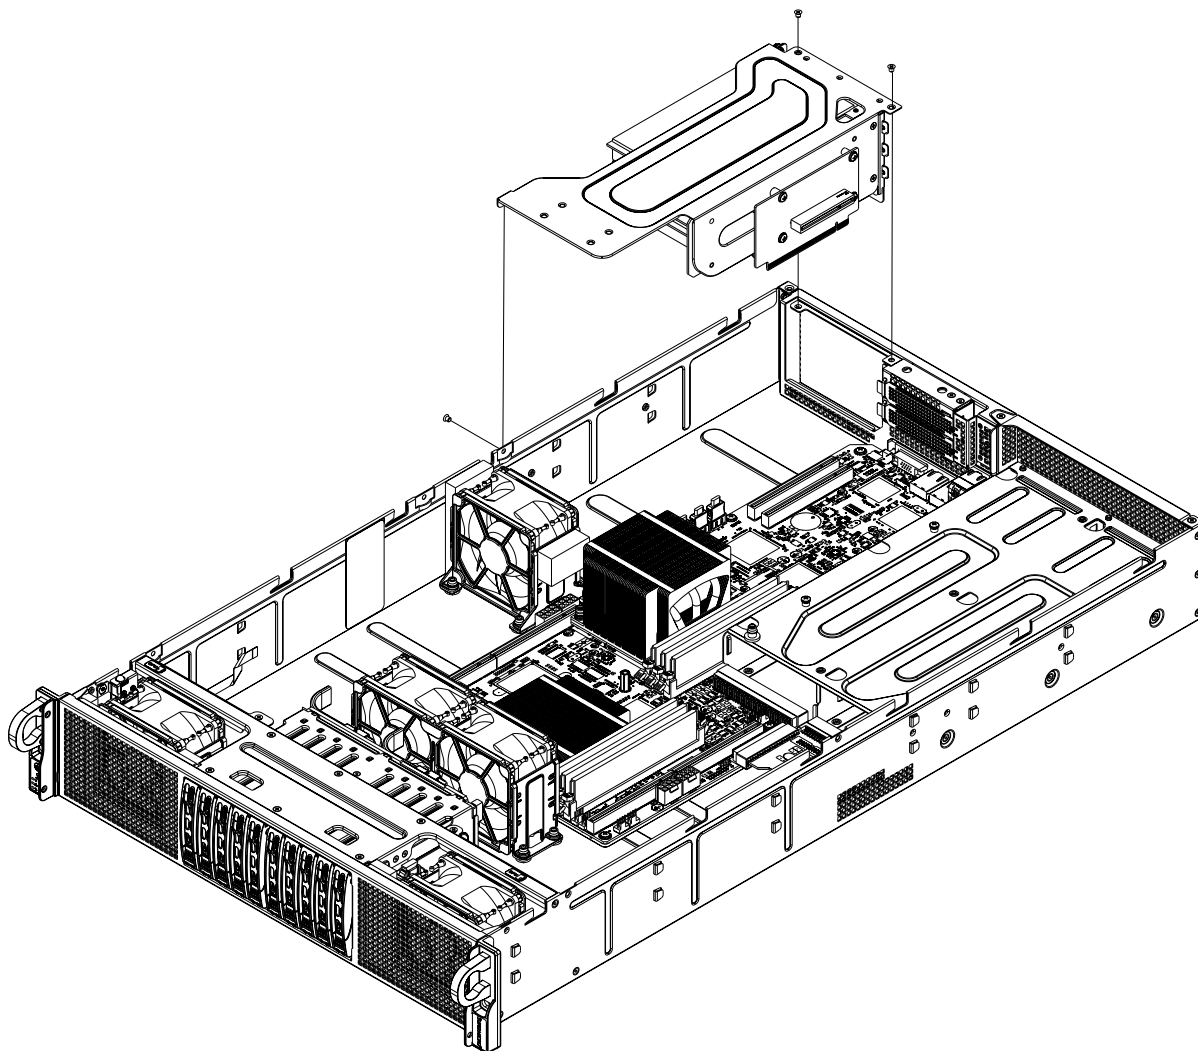

Figure 6-12 Full-height PCIe Bracket Assembly Remove/Replace Example
4. Undo the three screws holding the PCIe bracket assembly to the system chassis and remove the assembly (carefully disconnect the riser card from the serverboard during this process). Reference Figure 6-12 on page 58 for an example.
6. Place the PCIe bracket assembly back into the server chassis while carefully inserting the riser card back into the system serverboard slot. See Figure 6-12 on page 58 for an example.